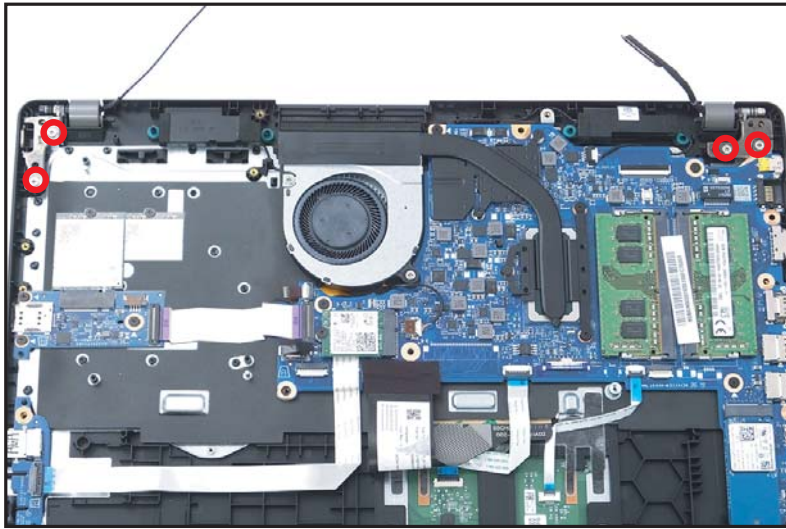

Figure 1-35. LCD Module Removal
9. Remove four (4) screws securing the LCD module in place (Figure 1-35).